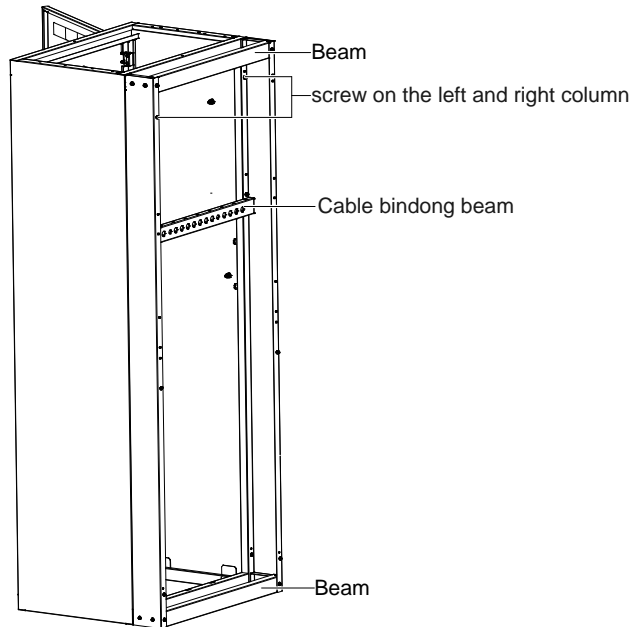

Figure 2-11 Rear cover plate installation for bottom cabling method (1)
1. Remove the original rear cover plate of the cabinet, and then install the new rear cover plate (100mm thickness) in the main frame of the cabinet. First install one screw on both of the right and left vertical pole of the new rear cover plate respectively. Then fix the upper and lower beam, and the cable binding beam in the middle of the cabinet. Finally, install the other screws on both of the right and left vertical pole, as shown in Figure 2-11.